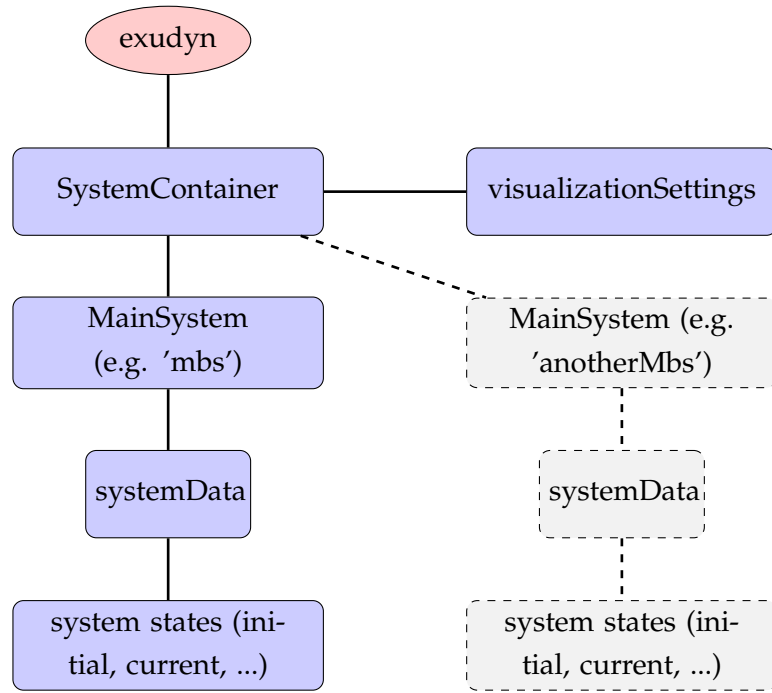

Figure 2.1: Overview of exudyn module.
- C++ parts, see Figs. 2.1 and 2.2: